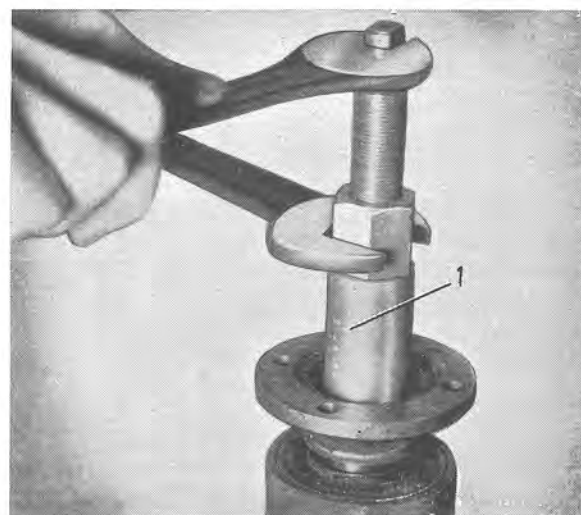

Fig. 4-140. Fitting flange
4. Press on the flange with the help of press tool SVO 1845, see Fig. 4-140. Fit the washer and nut.